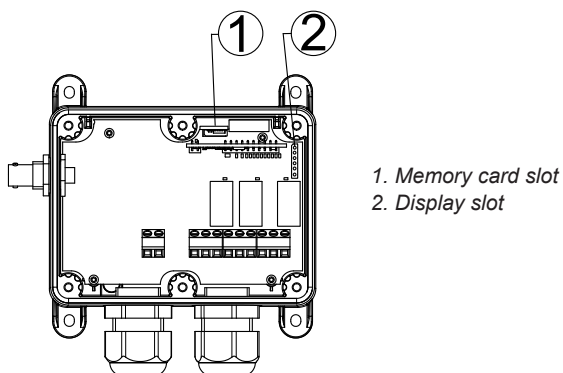

Figure 10. Memory card and display slots in the receiver
4. Insert the memory card that you want to copy in the memory card slot in the receiver (see Figure 10).
4. Insert the memory card that you want to copy all parameters to in the memory card slot (see Figure 10).